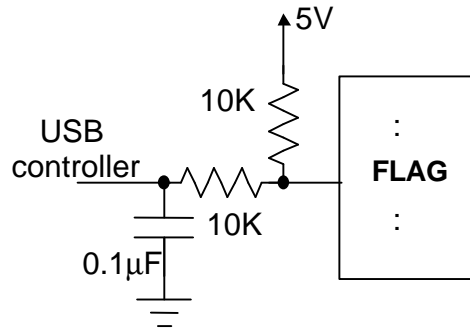

Figure 8. Low-Pass Filter to Prevent the Error Flag
the FLAG pin to the hub controller. Figure 8 shows that the low-pass filter with time constant is equal to 1ms. Through the equation (1), we can obtain that the hub controller will receive 4.75V after 52μs since the flag signal starts to be pulled low.